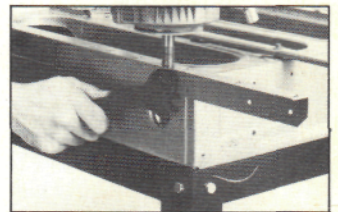

Fig. 2
- (iv) Rotate the arm to bring the motor shaft to a position directly over the left table support bracket. Carefully lower the motor, by turning the elevating handle, until the tip of the motor arbor just touches the support bracket as shown. (Fig. 2)